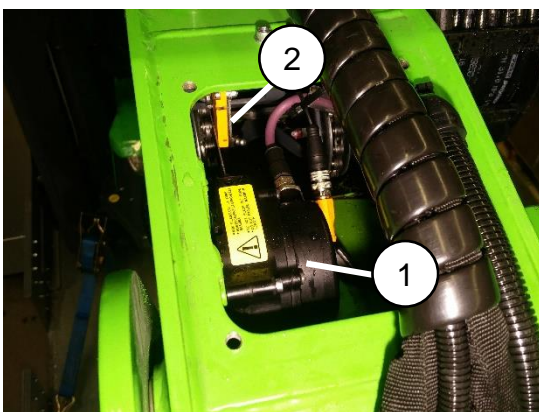

Figure 33: Upper boom sensor
Upper boom angle and telescopic boom outreach is monitored with a sensor which is located inside the upper boom located in the front side of the access platform (Figure 33 (1)). The condition of the outreach sensing cable is monitored by a capacitive sensor (Figure 33 (2)).